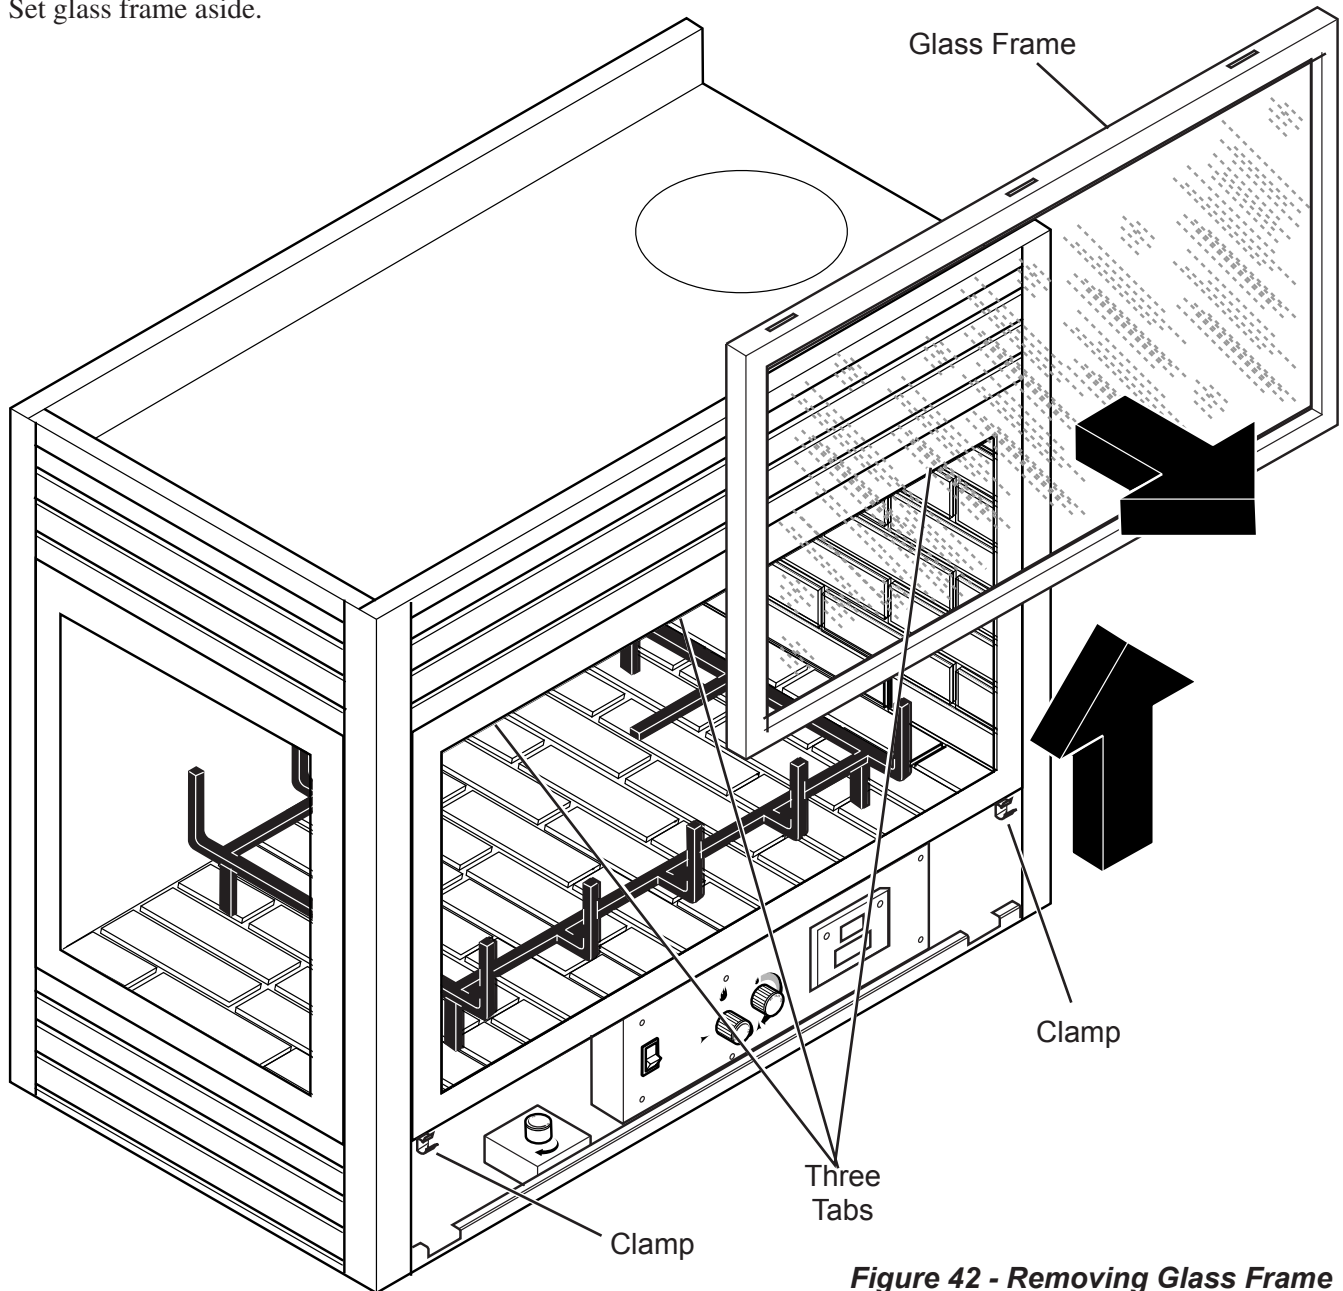

Figure 42 - Removing Glass Frame
1. Release two clamps on bottom of fireplace. *See Figure 42.*